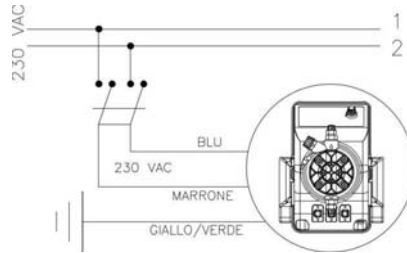

Fig. 4
1. Disconnect the pins from the mains or by means of a two poles switch with 3 mm minimum distance between the contacts. (Fig. 4).
- b. - Carefully observe the regulations in force in the various countries as regards electrical installations (Fig.4). When the supply cable is devoid of a plug, the equipment should be connected to the supply mains by means of a single-pole circuit breaker having a minimum distance of 3 mm between the contacts. Before accessing any of the electrical parts, make sure that all the supply circuits are open.